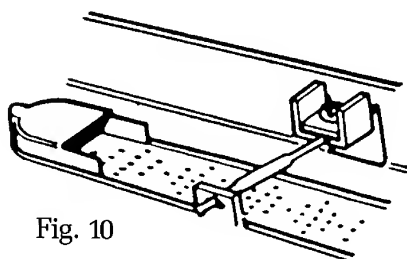

Fig. 10
8. Re-assemble in reverse order positioning phial as Fig. 10. Check for leaks.